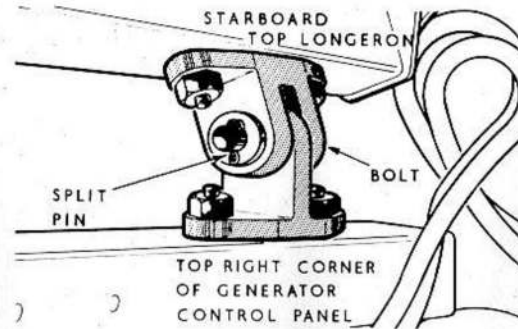

FIG.2 GENERATOR CONTROL PANEL UPPER ATTACHMENTS
- (1) Render the aircraft electrically safe, as described in Group A.1 of this chapter.
- (2) Remove the radio access door.
- (3) Disconnect cable assembly F49 from the plug located at the top of the supply panel. Seal off the plug and socket with an approved cap and cover.
- (4) Disconnect cable assemblies C37, C38, F52 and C5 from the differential cut-outs and the battery relay mounted on the control panel. Remove any straps and clips securing these cable assemblies, insulate the bare cable ends and stow the assemblies away from the panel.
- (5) Disengage the four Dzus fasteners securing the bottom of the panel and, with a second person supporting the panel, withdraw the two top hinge pins by removing the split-pins and washers (fig. 2).
- (6) Lower the panel and remove it from the aircraft, complete with cable assembly F49.